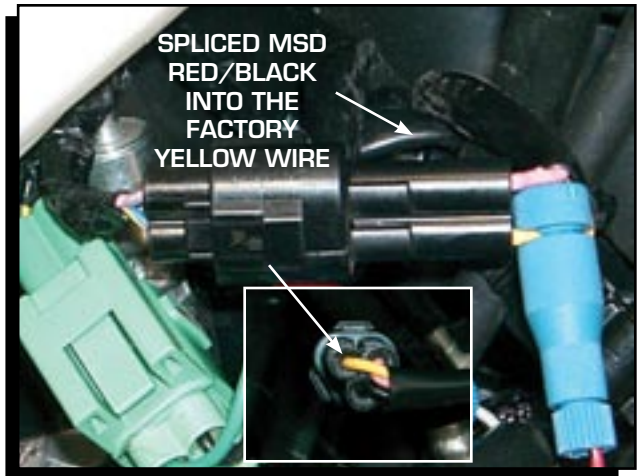

Figure 14 Splicing into the Speed Sensor Wiring.
5. Locate the 3-pin Black connector of the Speed Sensor on the left side of the bike. Splice the Red/Black wire of the MSD to Yellow factory wire (Figure 14).